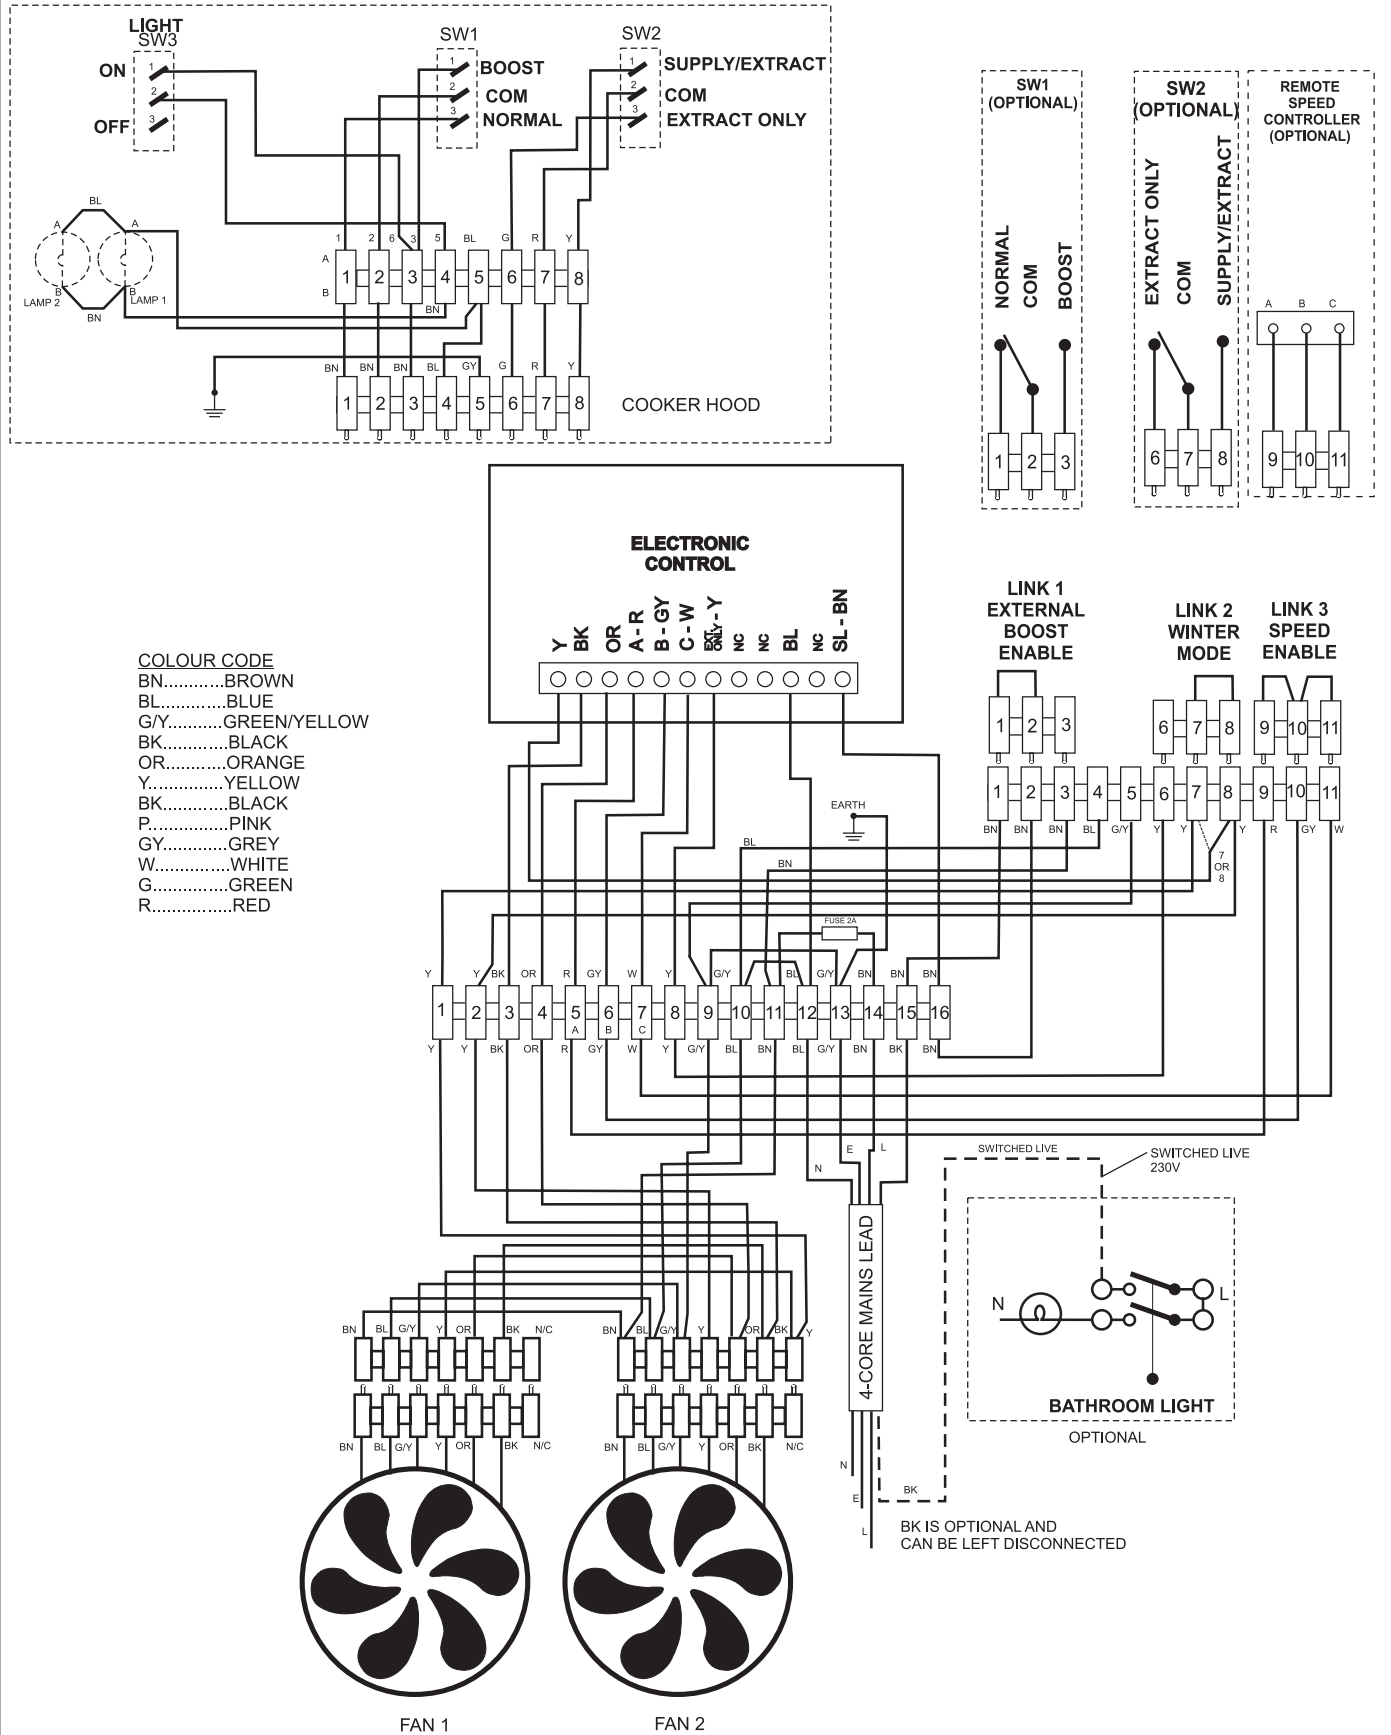

FIGURE 8
- Refer to Figure 8 interchange the following connections
- 5.2.6 Referring to Figure 8, connect the canopy electrical cable as follows: